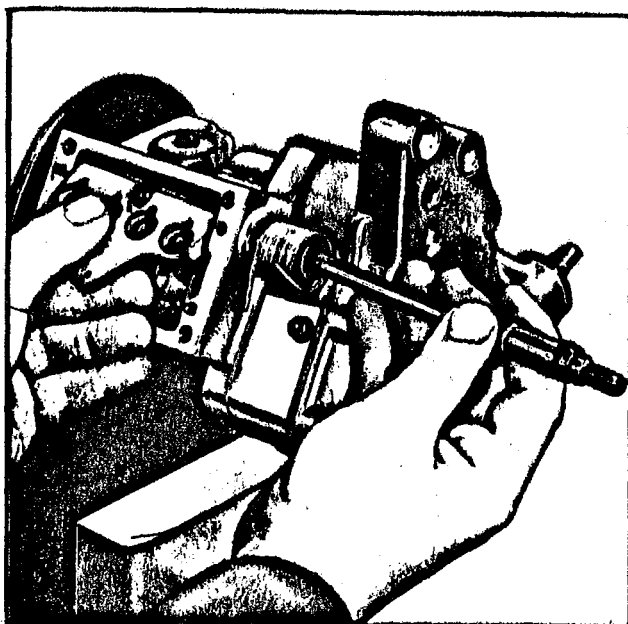
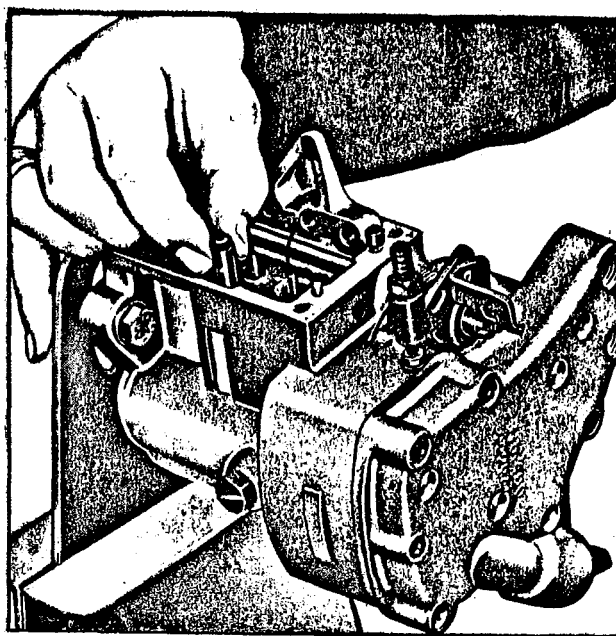

Fig. 37 - Fitting the Eccentric Shaft
Fig. 38 - Fitting the Cam Follower Pin
- renew the "O" ring (6) and fit the eccentric shaft (2) to the regulating rocker (19) by keeping this in the pump housing recess, as shown in figure 37, and turning the shaft in either direction up to inserting it completely;
- fit ring (16) securing the regulating rocker to the eccentric shaft;
- fit the retaining pin (97) into the relevant seat in the pump housing and turn it slowly until its front end engages the groove provided on the eccentric shaft, thus securing the shaft in the proper position as compared with the pump housing;
- fit the cam follower pin (75) into its seat (figure 38) and check